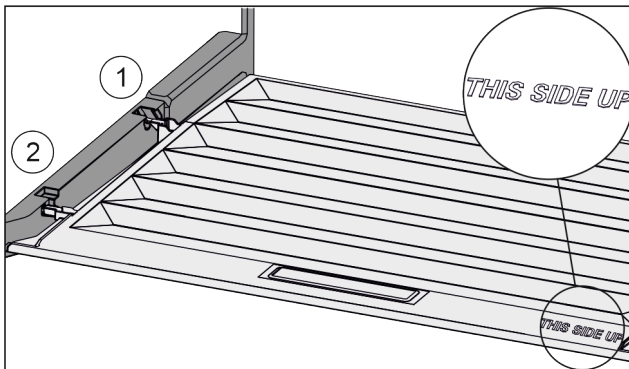

Fig. 27
- ▶ Insert the lip of the cover over the opening of the rear bracket Fig. 27 (1) and click into place Fig. 27 (2).